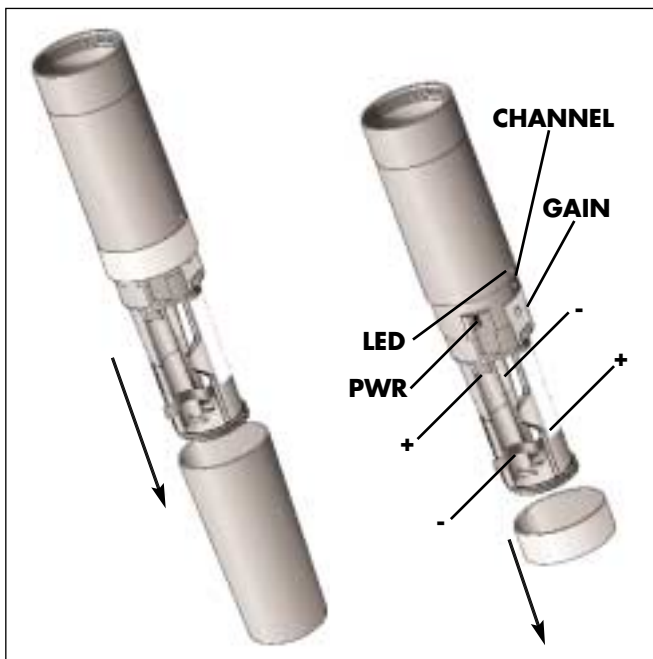
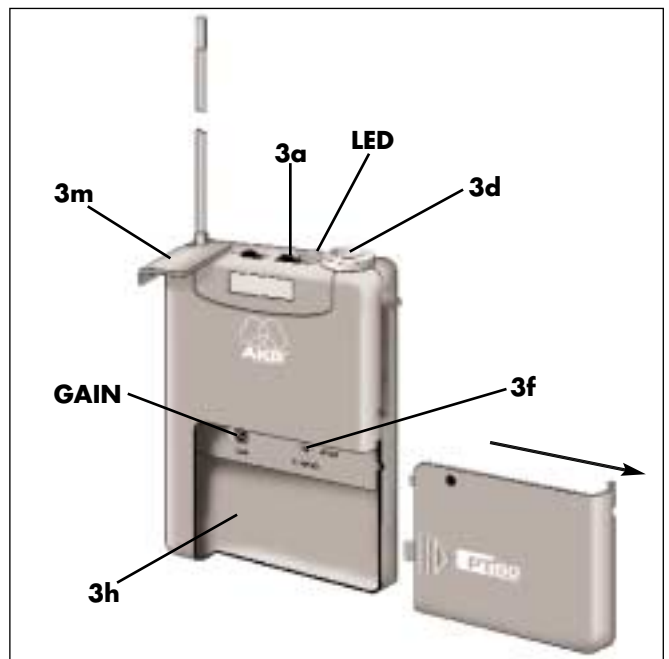

Fig. 2: Opening the handheld transmitter
Fig. 3: Bodypack transmitter
Bodypack transmitter: Referring to fig. 3, open the battery compartment (3h).
- Open the battery compartment referring to fig. 2 for the handheld transmitter and fig. 3 for the bodypack transmitter. Make sure that the end of the ribbon fixed inside the battery compartment of the handheld transmitter will stick out of the battery compartment. (The ribbon is needed for removing the batteries.)
The procedure for setting gain is the same for the handheld and bodypack transmitters. Refer to figs. 2 and 3 above.